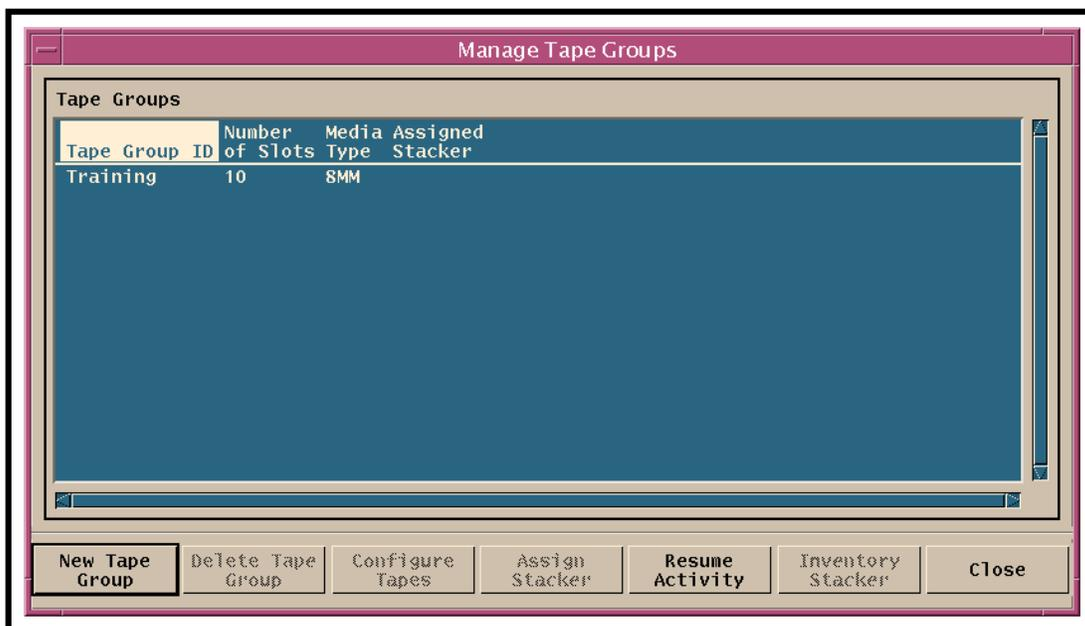

Figure 15. Manage Tape Groups Window (Storage Management Control GUI)
- The **Manage Tape Groups** window (Figure 15) is displayed.
- 8** Highlight the tape group to be modified by clicking on the name of the tape group in the **Manage Tape Groups** window (Figure 15).